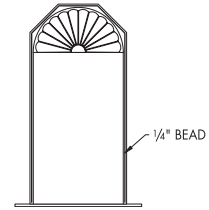

FIGURE 4
4. Apply a 1/4" bead of polyurethane construction adhesive along the top edge of the Niche tub (SEE FIGURE 4).